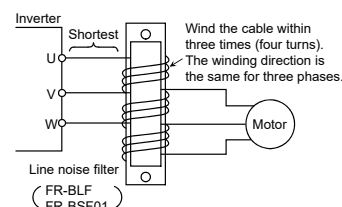

Fig. App 2.9 Installation of a line noise filter
The noise radiated from the motor connection cable can also be greatly reduced by reducing the propagated noise by installing a line noise filter on the inverter's output side and increasing the impedance in the high-frequency range. (Refer to Fig. App 2.9.)
- (d) Install a line noise filter on the inverter output side to lower the induction noise level. For the installation method, refer to Fig. App 2.9.